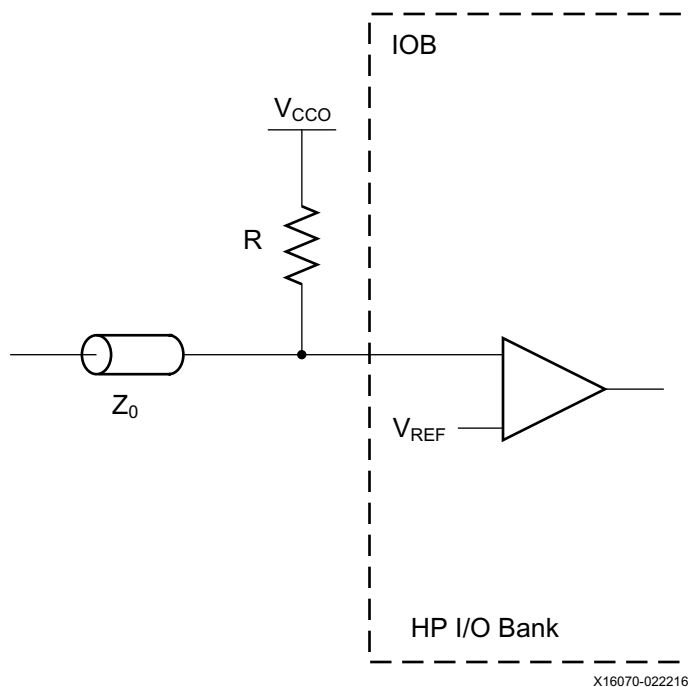

Figure 1-12: Input Termination to V_{CC0} without DCI (where $R = Z_0$)
Some I/O standards (POD10, POD12, HSUL_12, and DIFF_HSUL_12) require an input termination resistance (R) to a V_{TT} voltage of V_{CC0} (see Figure 1-12).